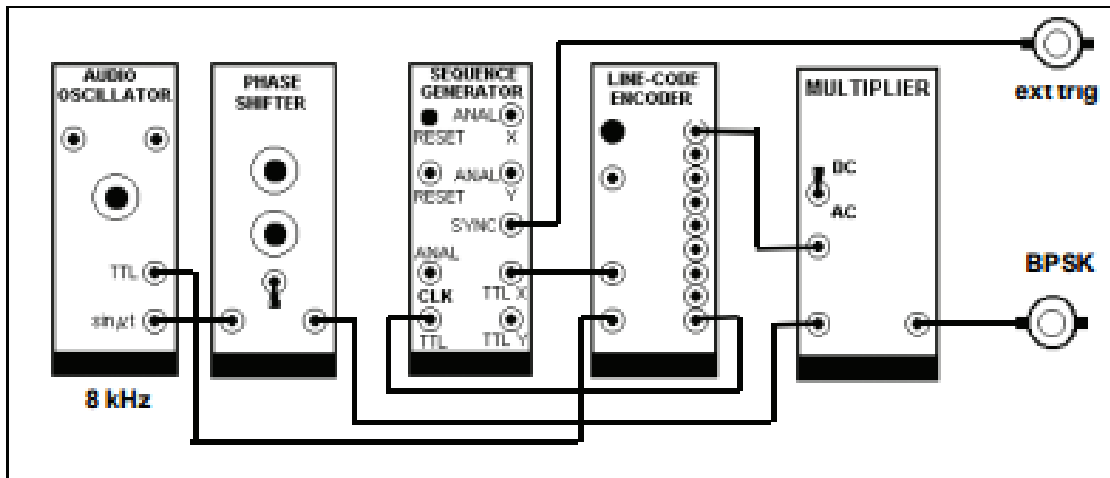

Figure 1
a) **Overview:** The generation of binary signals requires a clock. Here, we can generate the clock by using the AUDIO OSCILLATOR. Use the AUDIO OSCILLATOR to generate an 8 kHz signal. The TTL output of the AUDIO OSCILLATOR is then connected to the Line Code Encoder (Fig. 1). The Encoder can divide the input clock signal by different factors. Use the division by 4 output of the Encoder as a 2 kHz clock pulse which is connected to the Sequence Generator. The LINE CODE ENCODER is used to change the data stream to NRZ-L format (0/V volts to -V/+V volts). The LINE CODE ENCODER is driven by a master clock of 8 kHz.